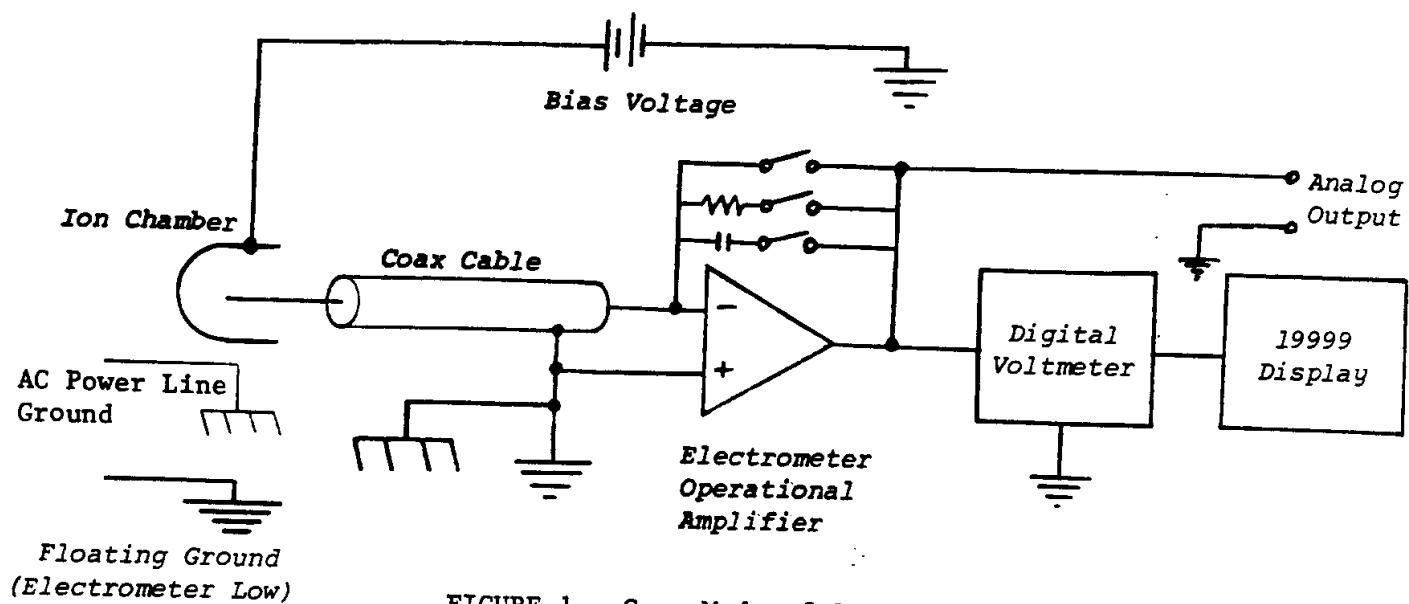
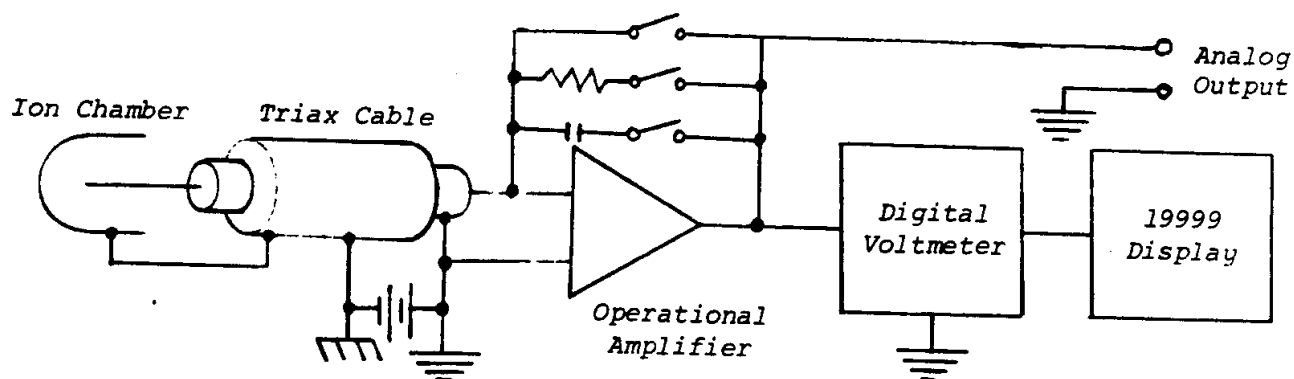
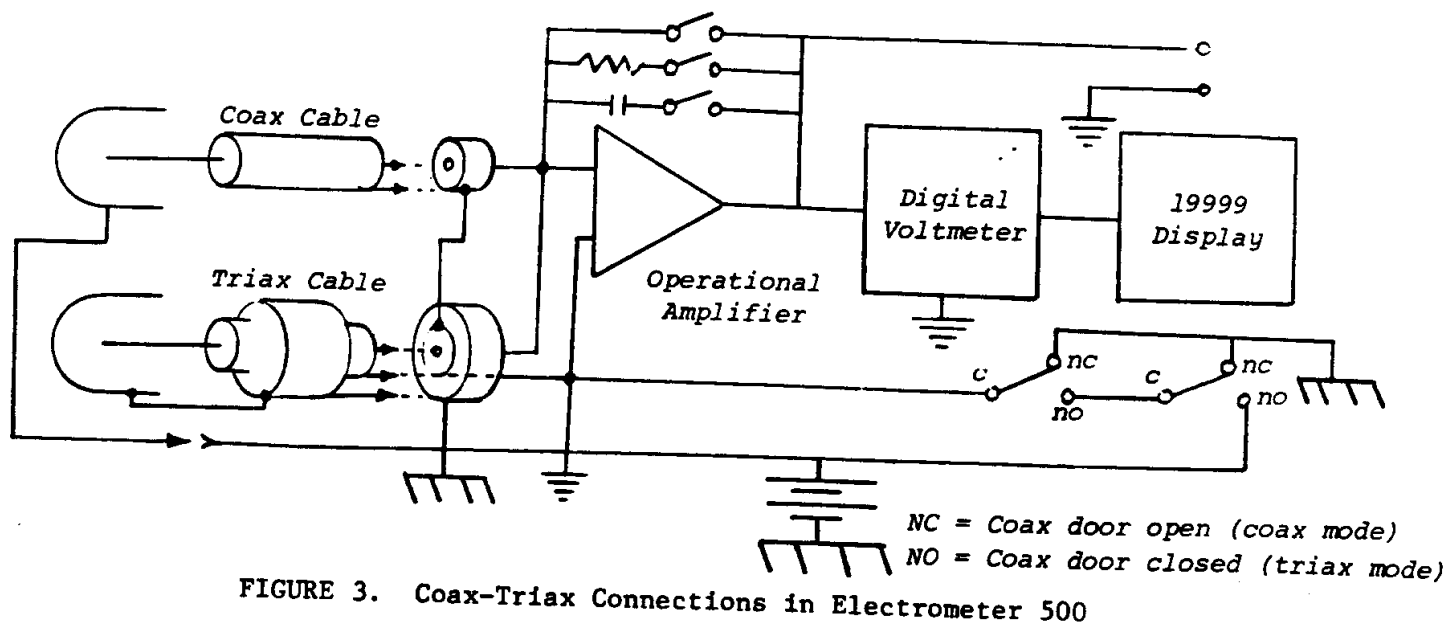

FIGURE 1. Coax Mode of Operation
FIGURE 2. Triax Mode of Operation
FIGURE 3. Coax-Triax Connections in Electrometer 500
4.3 Circuit Description - Figure 1 is a simplified schematic of the basic circuit of the electrometer in the COAX mode. Such circuit details as the bias reversing switch are omitted for clarity. The bias voltage is applied to the outer chamber electrode by a separate bias cable. The outer sheath of the coaxial cable is grounded to the power line ground. The output of the operational amplifier has three feedback paths only one of which is chosen at a time: The short circuit is used for zeroing the meter; the resistance path is used for reading current (rate); and the capacitor path is used for charge (integrating). The output can be read by the internal digital voltmeter and shown on the  $4\frac{1}{2}$  digit front panel display. It can also be read as an analog signal at pins 13 and 9 of the auxiliary connector.
Figure 2 is a similar simplified schematic showing the TRIAX mode of circuit connection. Most of the elements in this circuit serve the same function as in Figure 1, but the method of connection has the advantage of supplying the bias voltage over the second cable sheath, thus eliminating the need for a separate cable. The disadvantage is that the triaxial connector has two outer rings very close together with a 350-volt potential between them. The inner cable sheath is a floating ground which is also connected to pin 9 of the auxiliary connector, the ground for the output to an external readout device.
Two input connectors are provided to serve both kinds of chamber connection in the 500. The shock hazard is minimized by interlocking doors over the two connectors arranged in such a way that only one connector can be uncovered at a time. Two limit switches, operated by the doors, are connected as shown in Figure 3. They change the internal connections from the coax mode of operation shown in Figure 1, to the triax mode shown in Figure 2. The possibility that both switches should malfunction at once is slight. However, it is a wise precaution to depress the TEST pushbutton and be sure that the connections are made in the proper mode. When a mode of cable connection is selected, the COAX/TRIAX switch on the rear panel should be set in a corresponding position, or the battery voltage indication will show ZERO during test.